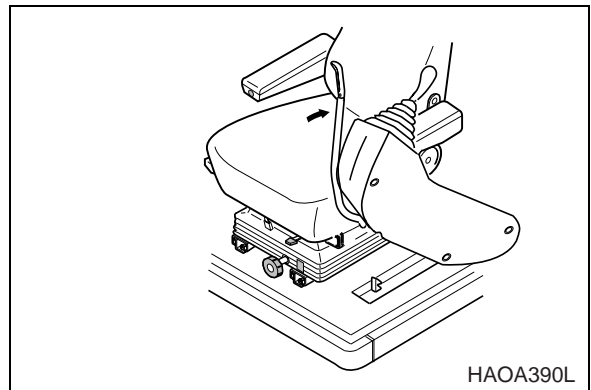

Figure 26
6. Set safety lever on "LOCK" position by pulling it up (Figure 26).